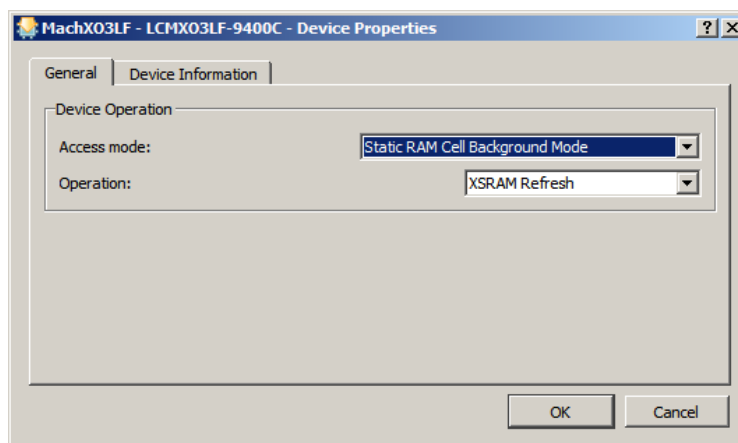

Figure 6.13. Using XSRAM Refresh
- In the Device Properties dialog box, select **Static RAM Cell Background Mode** in Access mode and **XSRAM Refresh** in Operation as shown in Figure 6.13. Click **OK** after the command is set.